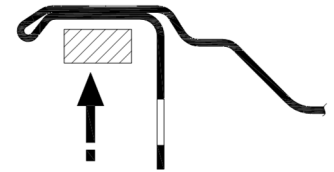

Fig 1.
8. Attach the self-adhesive foam sink seal around the recess under the sink rim (fig. 1). Note due to the depth of the rim you will need to "double up" the foam seal. Ensure to cover the entire perimeter, bend the foam seal around the corners of the sink. Trim the seal using a Stanley knife or sharp scissors.